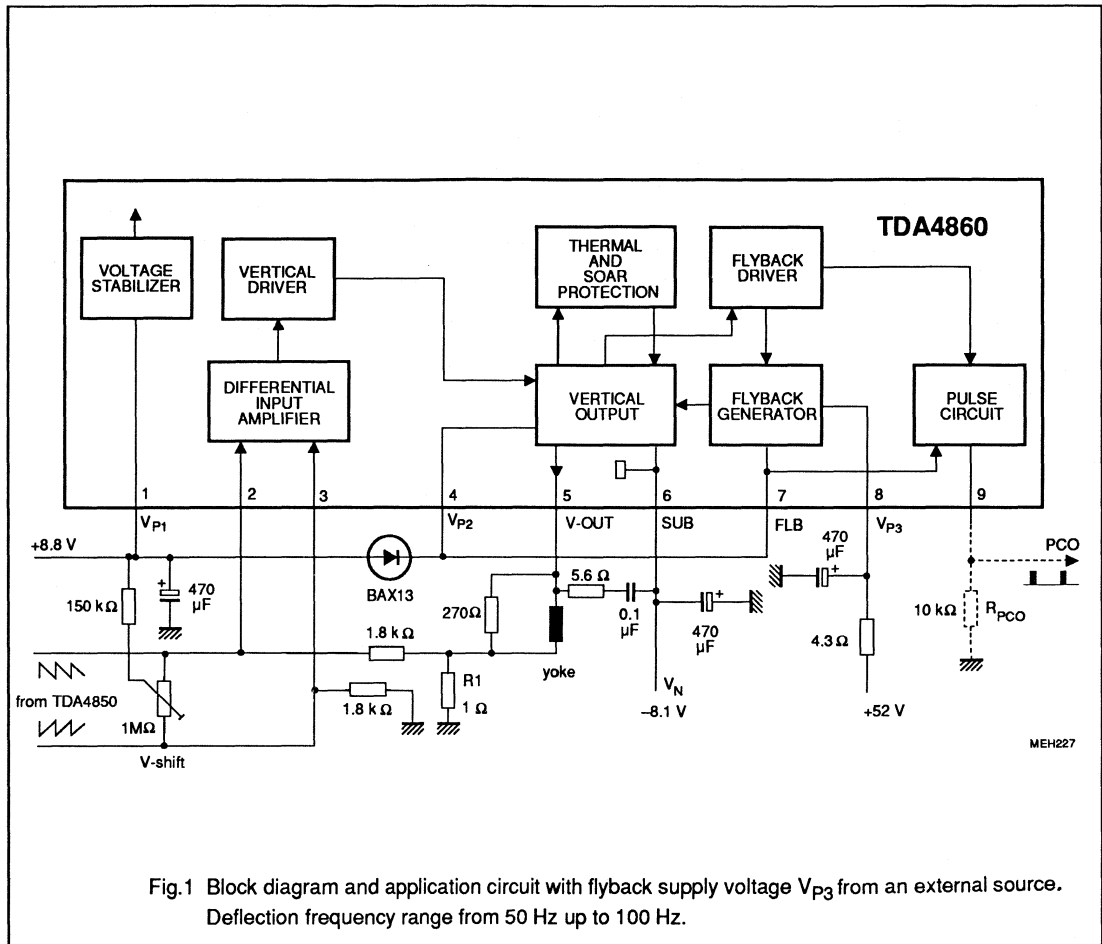

Fig.1 Block diagram and application circuit with flyback supply voltage V_{P3} from an external source. Deflection frequency range from 50 Hz up to 100 Hz.
Notes to Fig.1
Vertical shift is applied at the inputs in a power-less way (Fig.1).
- a supply voltage from external is applied for the short flyback time, thus the power dissipation is a minimum (Fig.1).
The heatsink can be estimated according to application circuit Fig.1.